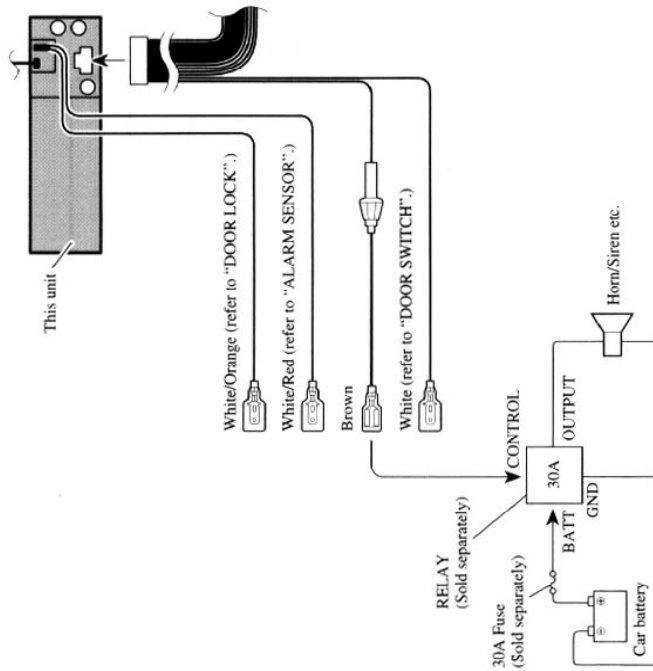

Fig. 30
- Brown (ALARM OUTPUT)** (Fig. 30)